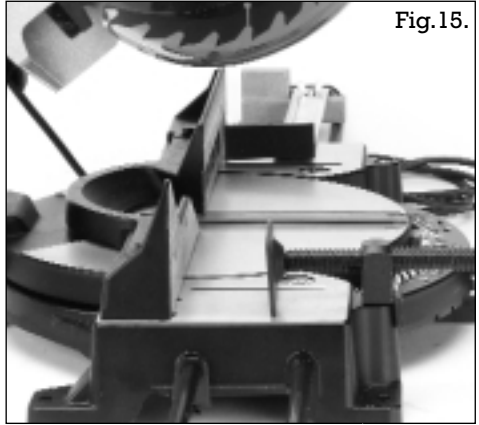
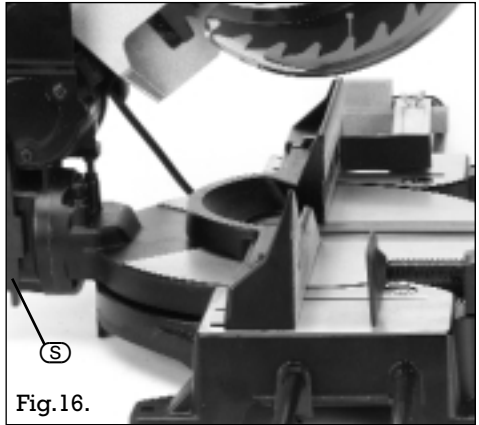

Fig.15.
Fig.16.
### MITRE FENCE ADJUSTMENT (Fig.15 & 16):
The mitre saw has two fence positions. The back position (Fig.15) is for standard 2 x 6" work pieces and the front position (Fig.16) is for smaller 2 x 4" work pieces. Using the wrench (S) remove the 2 bolts, move the fence to the front or rear position and bolt in place. Check squareness of fence to the blade again.